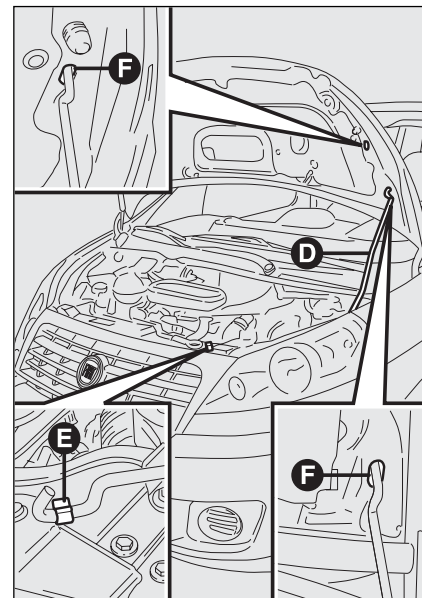

fig. 107
- lift the bonnet and at the same time release the rod **D**-fig. 107 from the catch **E**;
- fit the rod end **D** into one of the bonnet recesses **F**-fig. 107.